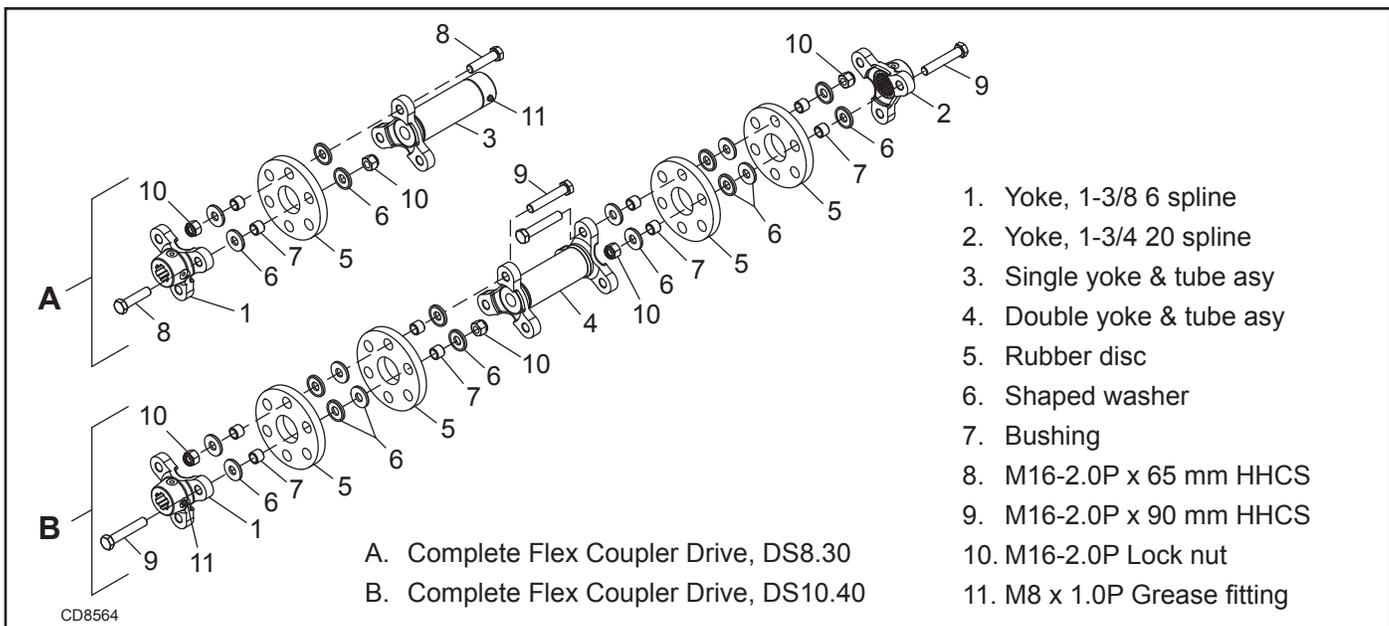

Figure 22. Side Drive Assembly
Reassemble shaft as shown in Figure 22. End yokes (1 & 2) do not bolt directly to center shaft (4). Use the special formed washer (6) and bushings (7) between the rubber discs (5) and under bolt head or nut near rubber disc. Tighten the nuts (10) evenly until the formed washers (6) are slightly embedded into the rubber discs. Rubber discs (5) will warp and twist if bolts are overtightened. Tighten set screws on center gearbox shaft only. Grease opposite end of side drive through grease fitting (11) located on end yoke.